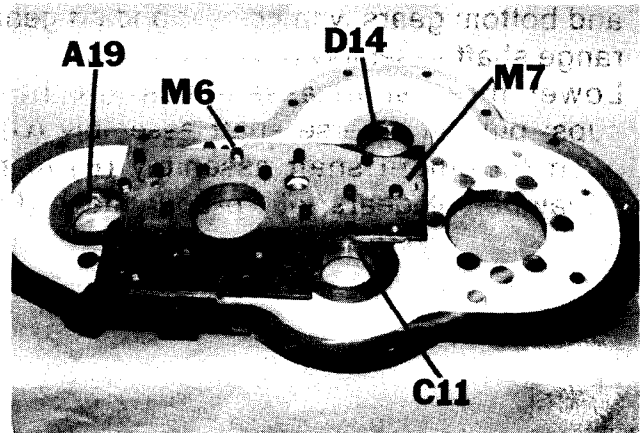

Figure 52
13. Install sealing plate (M-7) with capscrews. Tighten from center outward and torque 28-32 ft. lbs. (Figure 52).